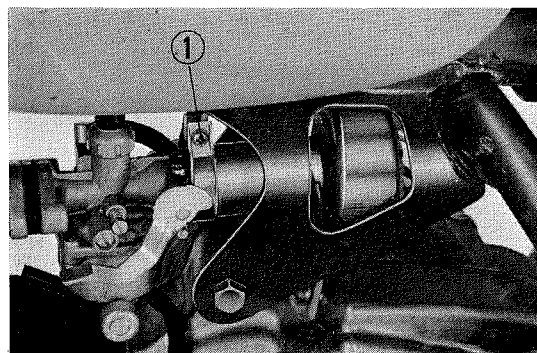

Fig. 12 Air cleaner
1. Unscrew the air cleaner tube fixing screw and remove the air cleaner from the carburetor. (Fig. 12)